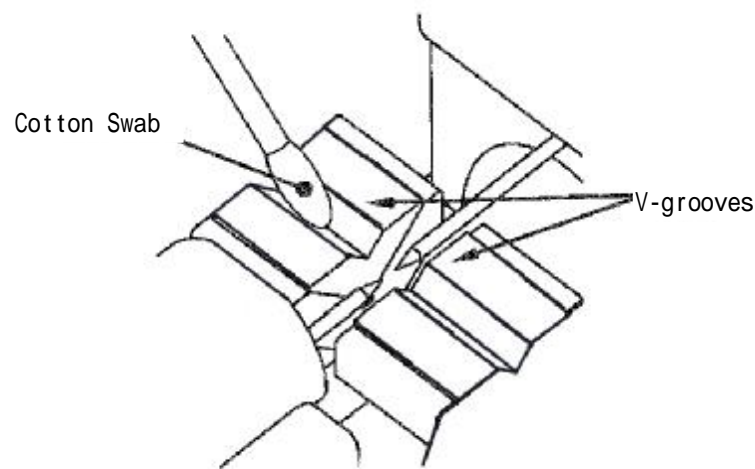

Fig.5—1. Cleaning V-grooves with Cotton Swab
- (1) Open the wind protector and fiber clamps.
- (2) Clean the bottom of the V-groove with an alcohol-impregnated thin cotton swab as shown in Fig. 5—1. Remove excess alcohol from the V-groove with a clean dry swab.